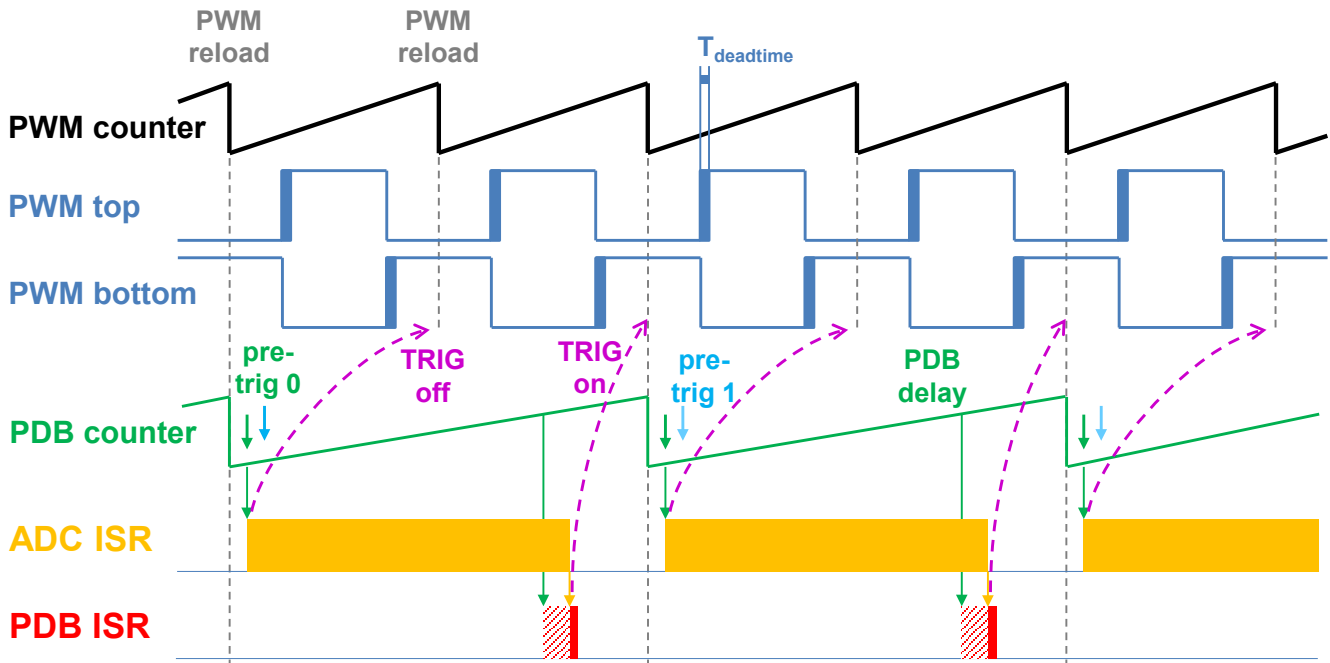

Figure 8. Hardware timing and synchronization on KV11Z and KV10Z
- The PDB Delay interrupt is enabled. This interrupt is generated when the PDB_IDLY is reached. This interrupt enables the FTM_TRIG (see Figure 8).